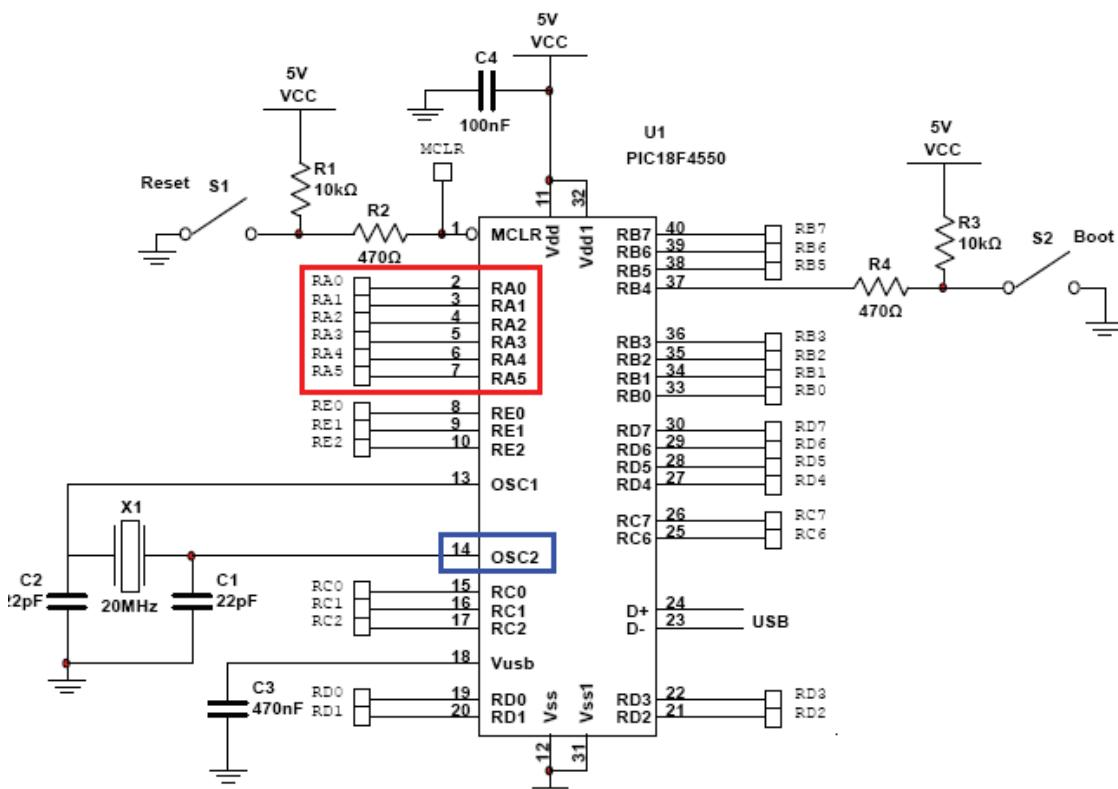

Figure 3.3 – General purpose I/O pins available on the micro-controller board
- On the micro-controller board (see Figure 3.3), the available Port B pins are RB7-5 and RB3-0. Pin 37 (RB4) is connected to an active low switch, so RB4 is not available.
- On the micro-controller board (see Figure 3.3), the available Port C pins are RC7-6 and RC2-0. Pin 24 (RC5) and Pin 23 (RC4) are used for USB downloading of hex file into the micro-controller, so RC5-4 are not available.
- On the micro-controller board (see Figure 3.3), the Port D pins RD7-0 are all available.
- On the micro-controller board (see Figure 3.3), the available Port E pins are RE2-0. Pin 1 (RE3) is used as the active low Master Clear (/MCLR) input, so RE3 is not available.